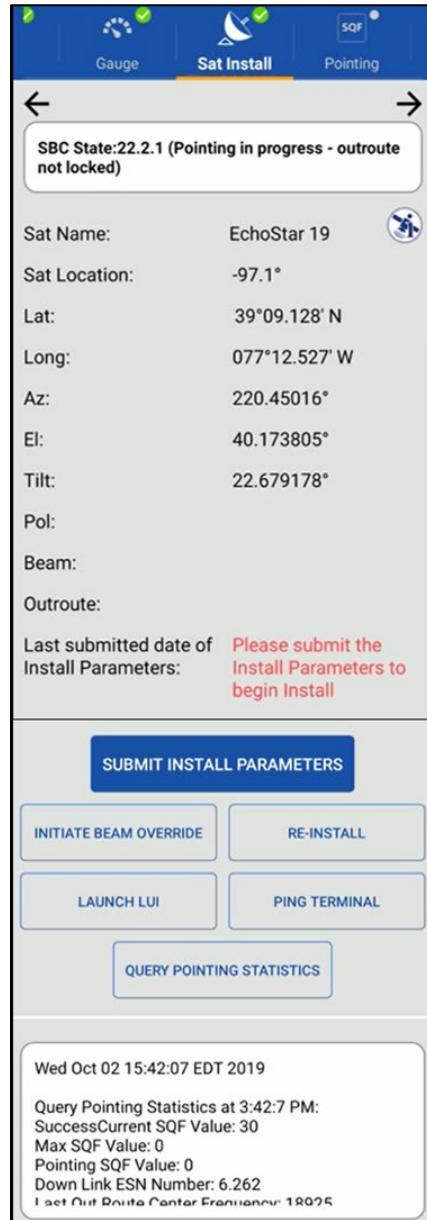

Figure 52: Sat Install screen
2. Tap **Save** to save the value to a table that appears below the *Signal Value* field. See Figure 52.